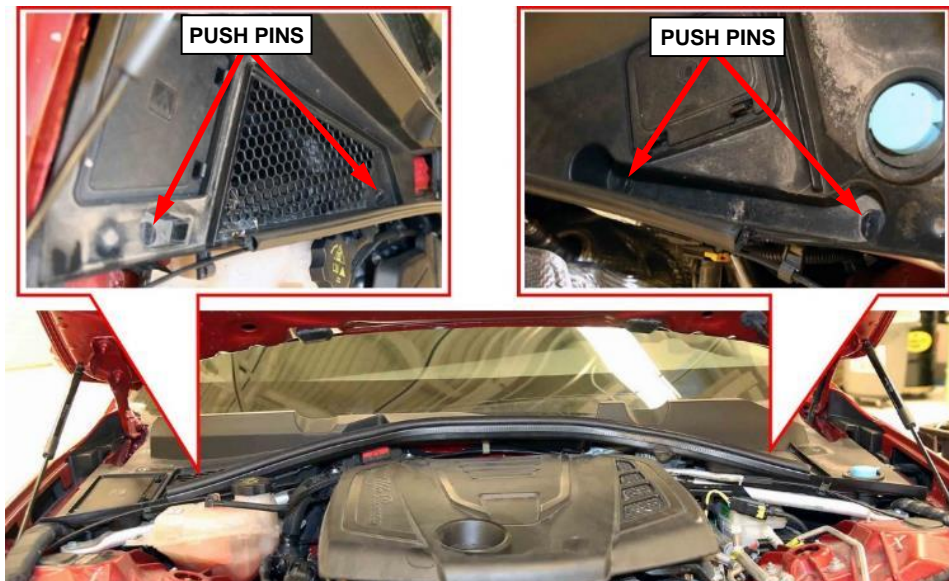

Figure 8 – Cowl Trim Retainers
12. Remove the four push pin rivet fasteners from the cowl trim (Figure 8).
10. Install the push pin rivet fasteners to the cowl trim (Figure 8).